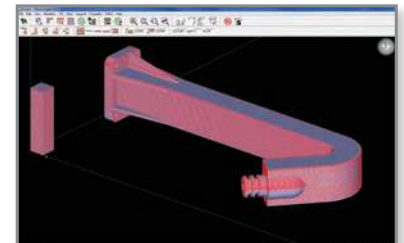

Figure 10: Open and slice the second region.
STEP 10: Open, orient and slice the last STL file and then apply the desired toolpaths by using **Custom Groups** (Figures 10 and 11).